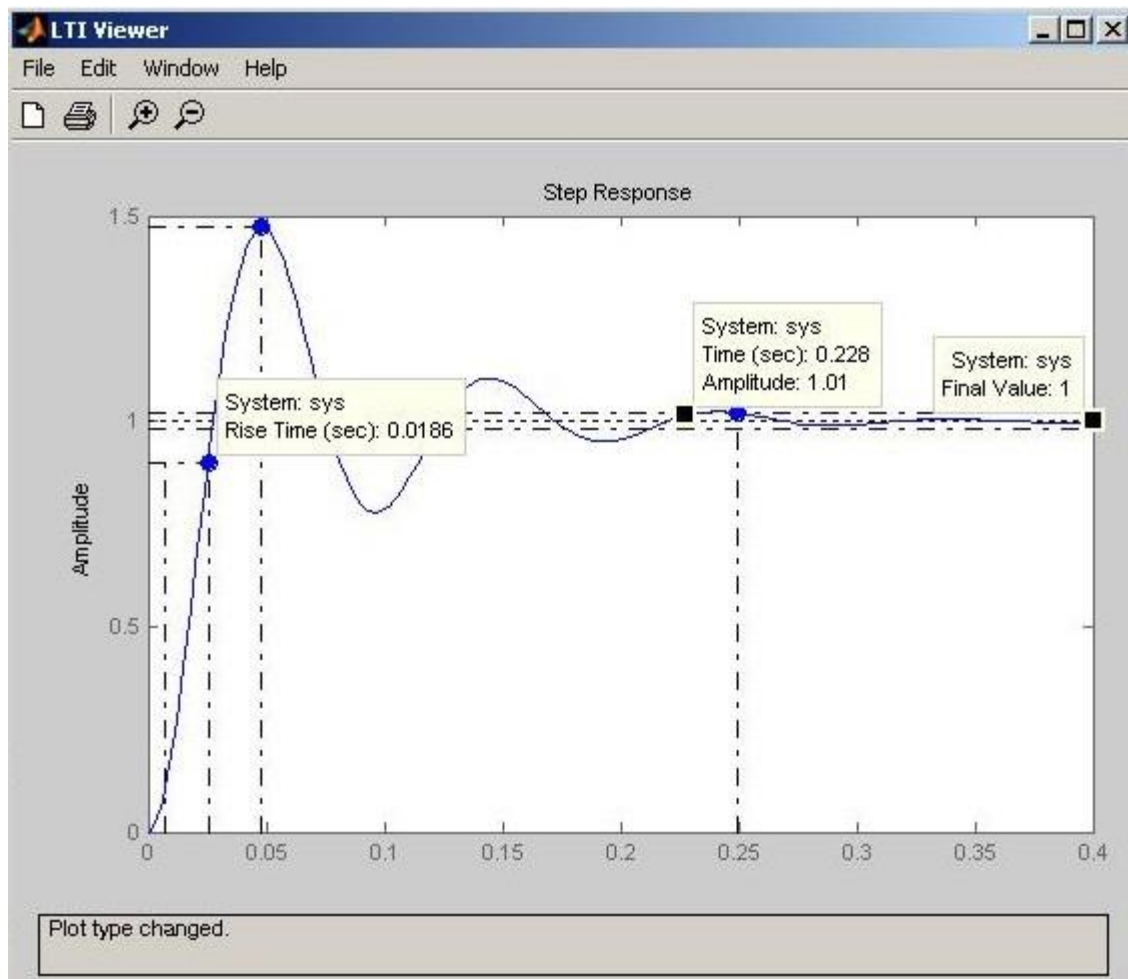

Fig. M5.5 *Coordinate values in step response curve*
- **Characteristics:** Read the values of the characteristics by placing the mouse on the characteristics point on the plot. Left-click the mouse to keep the values displayed (Fig. M5.5).
- **Coordinates and curve:** Left-click the mouse at any point on the plot to read the system identification and the coordinates (Fig. M5.5, shown by square block).